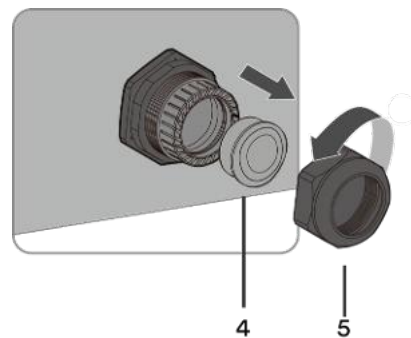

Fig. 51. Communication cable fitting
2. Unfasten the cable fitting for communication connection (see Fig. 51).